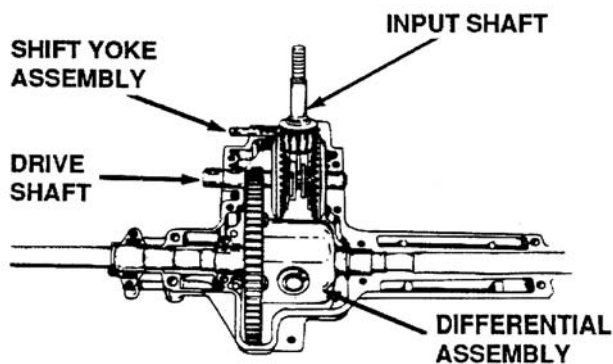

Figure 6-12. Internal Parts of Transaxle
- Pack transaxle with grease when reassembling. See Figure 6-12.
1. The 717-0950 transaxle incorporates differential and gear reduction assemblies. See Figure 6-12. It must be used with part number 717-0940 BDU-10S-Sunstrand Hydrostatic Pump. (See Section 9.) All internal drive and axle shafts are resting/turning on heavy duty ball bearings designed for longer life expectancy. The input shaft has needle bearings and also incorporates a thrust bearing assembly for higher speeds with minimal wear. The housing is aluminum diecast and specially designed for use on lawn and garden tractors.